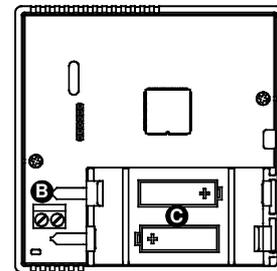
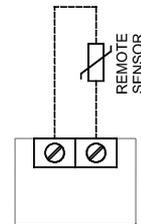

Fig. 6
Fig. 7
**4** - Insert the batteries (respecting the correct polarity) in the battery compartment (C in Fig. 6); use only alkaline, brand new batteries.
- Connect the remot sensor (if present) using the 'REMOTE SENSOR' connector (B in Fig. 6), according to the wiring diagram shown in Fig. 7; then remember to set properly the parameter P10. Read the section 'INSTALLER CONFIGURATION'.